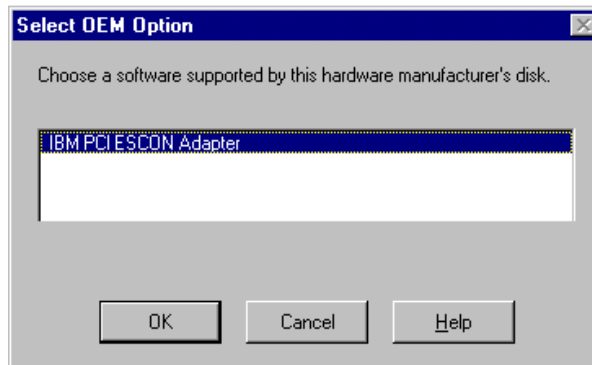

Figure 3-5. Select OEM Option Screen
5. The **Select OEM Option** dialog box will be displayed (Figure 3-5). Highlight/select the IBM PCI ESCON Adapter and click **OK**.